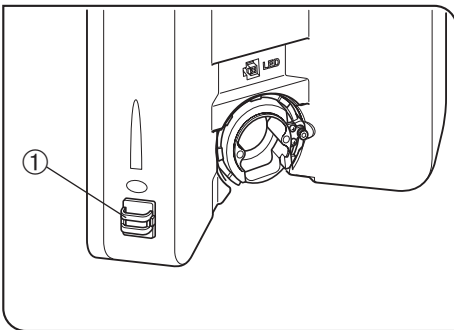

Fig. 44
4 Attaching the Halogen Lamp Socket (Fig. 44)
Installing the U-LS30ADP LS30 Adapter (Fig. 44)
4. Pass the lamp cable through the cable holder ① (Fig. 44).